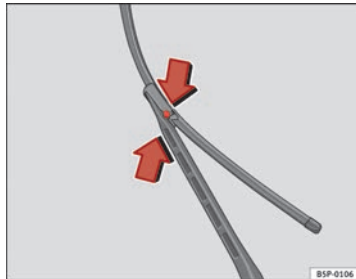

Fig. 167 Changing the front wiper blades
- Push the side buttons, free the blade and pull in the direction of the arrow → Fig. 167